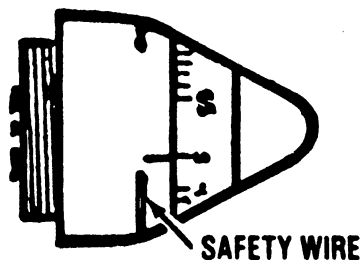

Fig 3-15. M772 fuze.
- (1) The M772 fuze (fig 3-15), is a mechanical time fuze. It can be set from 4 to 55 seconds at half second intervals. The settings are obtained from range tables and are applied using a wrench (number 9349539) or a 1 3/4 inch open end wrench. This fuze has a safety wire that must be removed before firing. This fuze comes standard on the M819 RP round and is also found on the M853 illumination round.